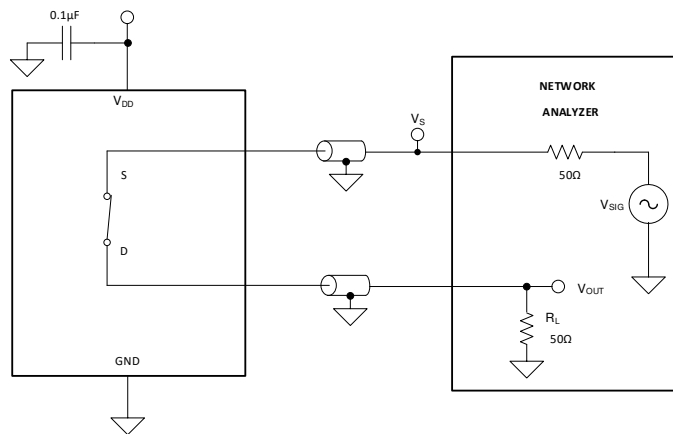

图 7-10. Bandwidth Measurement Setup
Bandwidth is defined as the range of frequencies that are attenuated by less than 3 dB when the input is applied to the source pin (Sx) of an on-channel, and the output is measured at the drain pin (D) of the device. 图 7-10 shows the setup used to measure bandwidth.